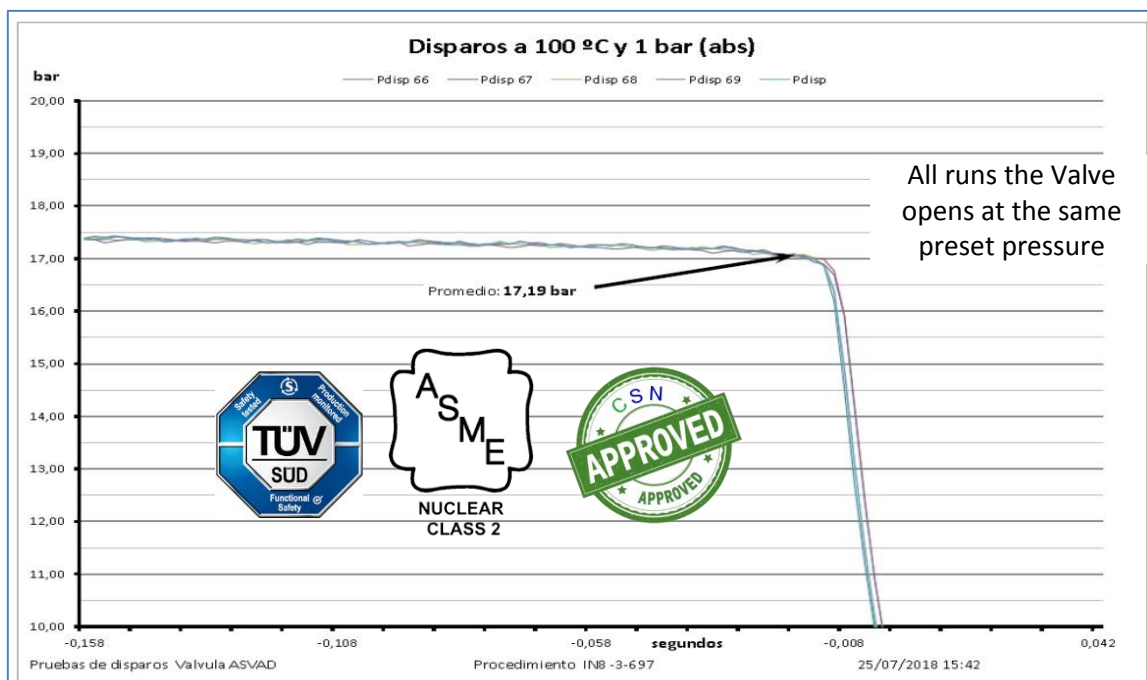

Figure 5. ASVAD opening pressure tests results.
- **Automatic opening test.** To verify the valve opening at the setpoint pressure it was subjected to different operating conditions from 20°C to 140°C and ambient pressures changes from 1 to 6 bar. Some test results are presented in Figure 5. ✓